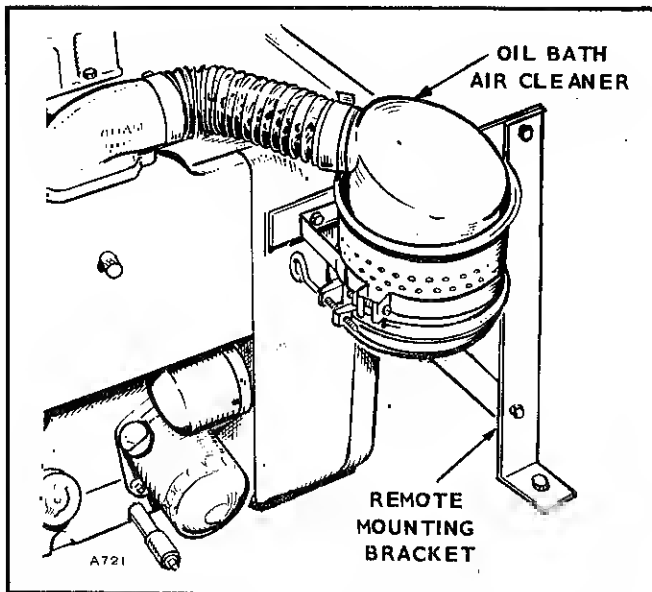

FIGURE 26. OIL BATH AIR CLEANER
**Oil Bath Air Cleaner (Optional) (Fig. 26):** Clean and Refill the oil cup at regular intervals, depending on the ambient operating conditions. In some conditions, service the cleaner daily. Establish a regular cleaning interval so the operator can correctly service clean the cup before the dirt accumulates in the bottom to a depth of 1/2 in. or the oil appears too heavy to spray or circulate properly. Use same crankcase grade oil. When changing oil, inspect the wire screen filtering element and remove any accumulation of lint, etc. Air